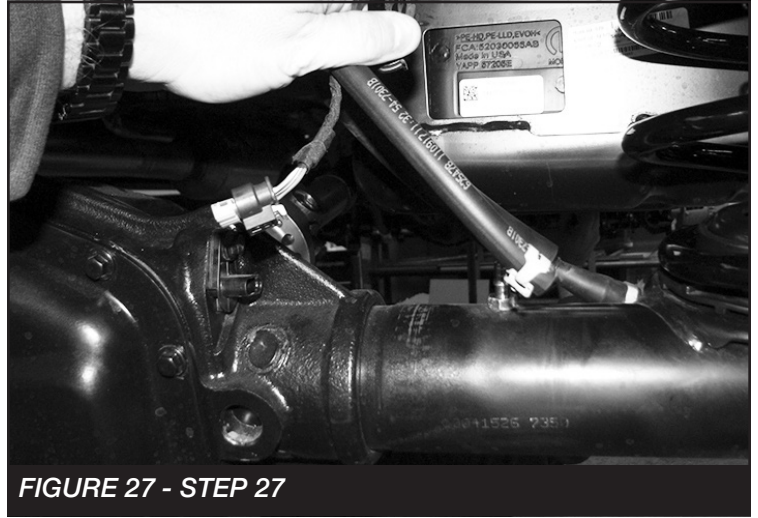

FIGURE 27 - STEP 27
27. Unplug the locker harness from the axle (**RUBICON MODELS ONLY**) **SEE FIGURES 27**